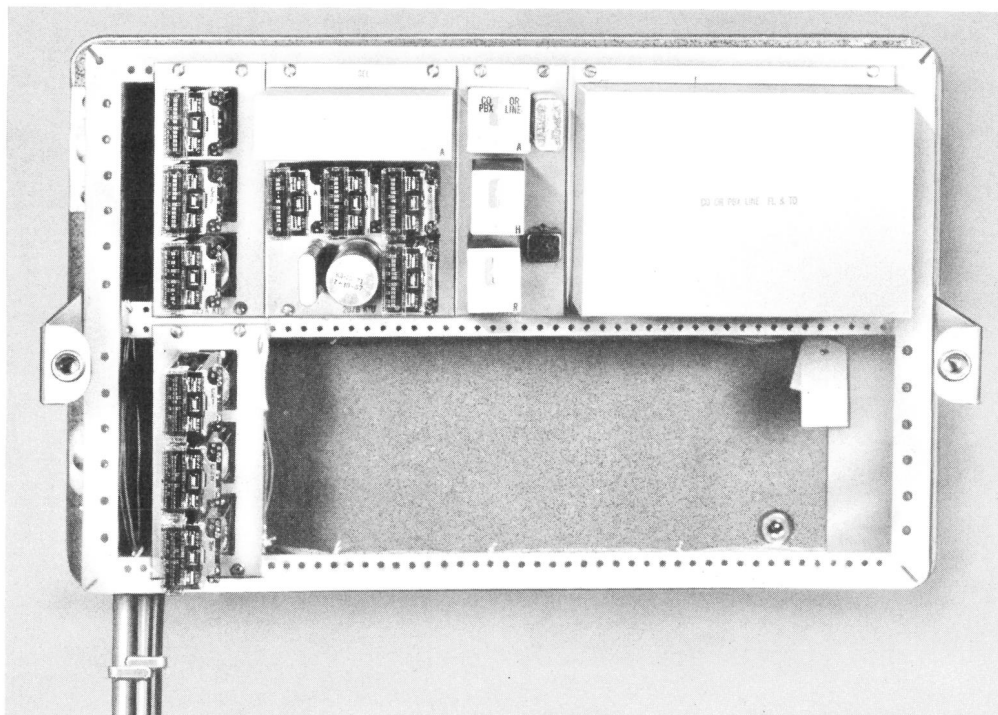

Fig. 4 — 16A Apparatus Mounting, 1A1 System
3.04 The 16A apparatus mounting was primarily designed to house key telephone units of the 1A1 system. Fig. 4 shows a 16A apparatus mounting with panel-mounted key telephone units.